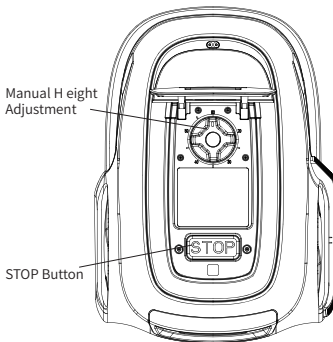

Fig.4-4
- TLM-M600 series: Clockwise rotation to increase the cutting height; counterclockwise to decrease the height (Fig 4-4).